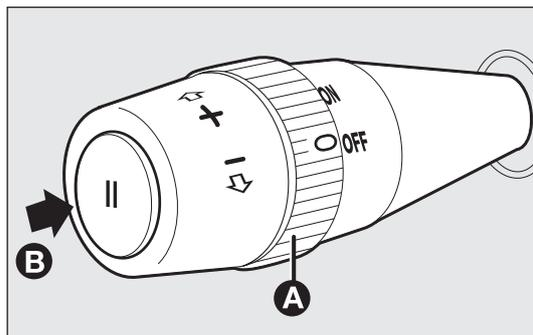

fig. 72
DEVICE ACTIVATION fig. 72
- press the button B-fig. 72.